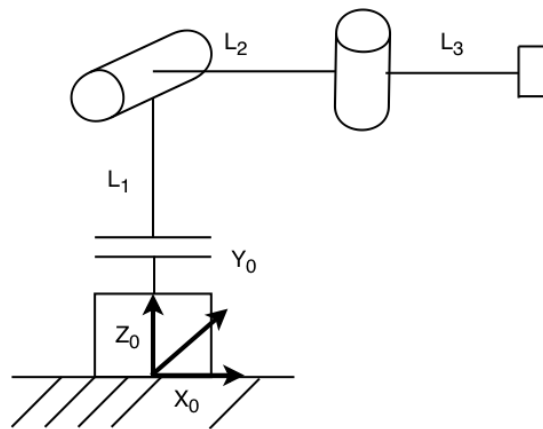

Figure 1:
Figure 1 shows the robot configuration that is being used. In the initial position, shown in Figure 1, the prismatic joint is operating along  $Z_0$  axis, the first rotational joint is in parallel to  $Y_0$  axis and the second rotational joint is vertical and in parallel to  $Z_0$  axis.  $L_1$ ,  $L_2$  and  $L_3$  are fixed lengths between the defined joints.  $L_1$  is from the prismatic joint to the first rotational joint, and so forth. The prismatic joint is considered to be in the base of the robot. The prismatic joint constraints are the following:  $d_1 = 0$  to 30.
- (10 %) Assign coordinate frames on the robot in Figure 1 using Denavit-Hartenberg convention. Write the Denavit-Hartenberg parameters in a table.
- (5 %) Describe and draw workspace of the robot shown in Figure 1. What are possible issues regarding reachability? What would you suggest to improve the reachability (workspace)?